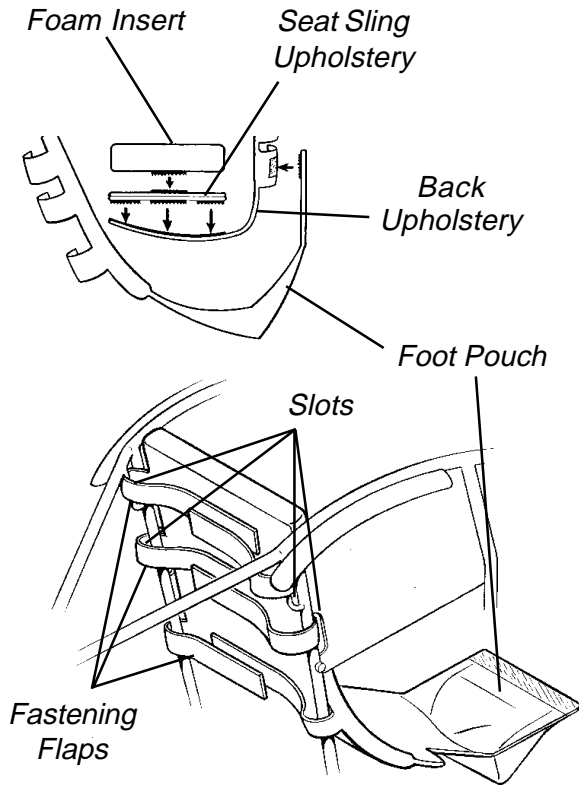

FIGURE 2 - ADJUSTING/REPLACING LEG CUSHION WITH FOOT POUCH
**ADJUSTING/REPLACING LEG CUSHION WITH FOOT POUCH (FIGURE 2)**